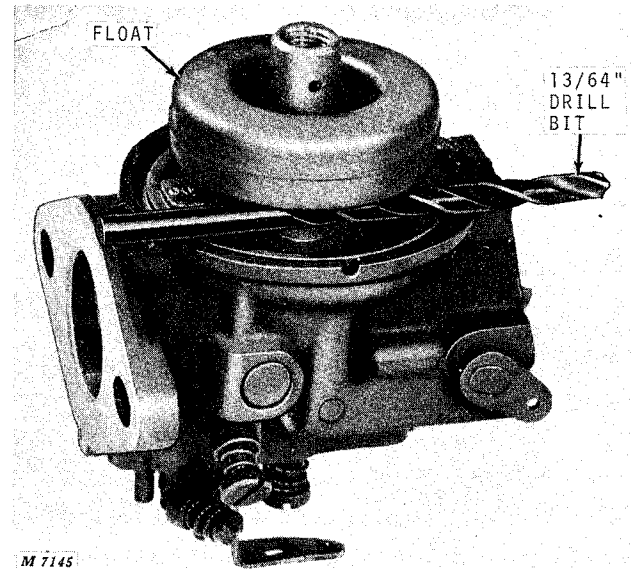

Fig. 4-Adjusting Float
Assemble float (12, Fig. 2), to carburetor housing with float pin (16). Invert carburetor, Figure 4. With float resting lightly on float valve, the distance between float and machined surface of carburetor body should be  $13/64$  inch. To increase or decrease the distance, bend lip on float. Dimension should be made on free end of float (opposite valve seat), Figure 4.
**NOTE:** Be sure carburetor-to-bowl gasket (10) has a perfect seat and forms a gas-tight seal.